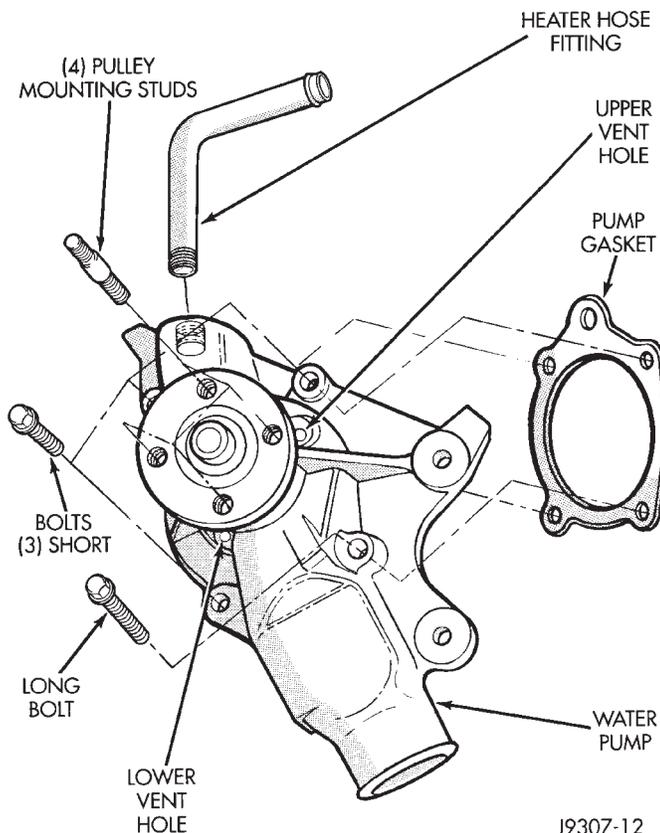

Fig. 31 Water Pump Remove/Install—Typical
(12) Remove the four pump mounting bolts (Fig. 31) and remove pump from vehicle. Discard old gasket. Note that one of the four bolts is longer than the other bolts.